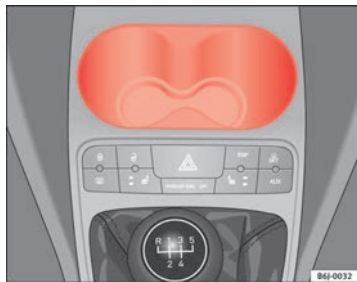

Fig. 83 Front cup holders in the centre console
- There are two cup holders in the centre console in front of the gear lever ⇒ fig. 83.